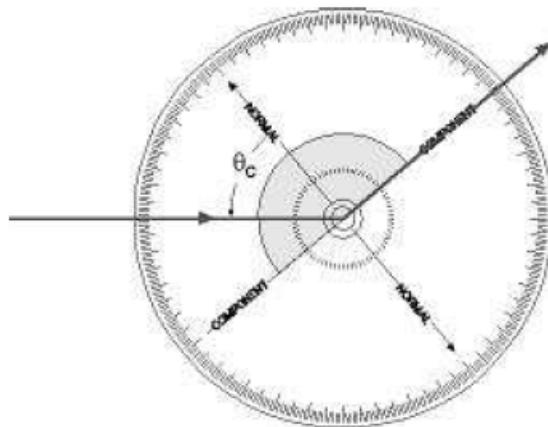

Figure 6
- 1 Set up the acrylic disk as in Part 1. Rotate the ray table so that the light ray hits the circular side of the disk first. In this way the ray will approach the flat side of the disk from the acrylic side and exit on the side with air (lower index of refraction) (see Fig. 6).